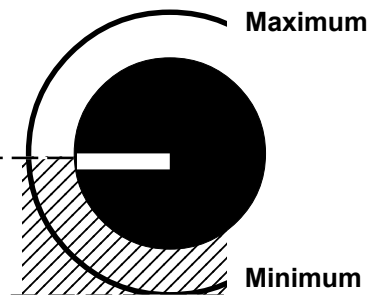

Figure 6
**NOTE: Each input volt equals 12.5 psi output pressure. For example, at 65 psi input, the potentiometer would operate between minimum and halfway to maximum on the dial to achieve maximum performance of this unit. (See Fig. 6).**